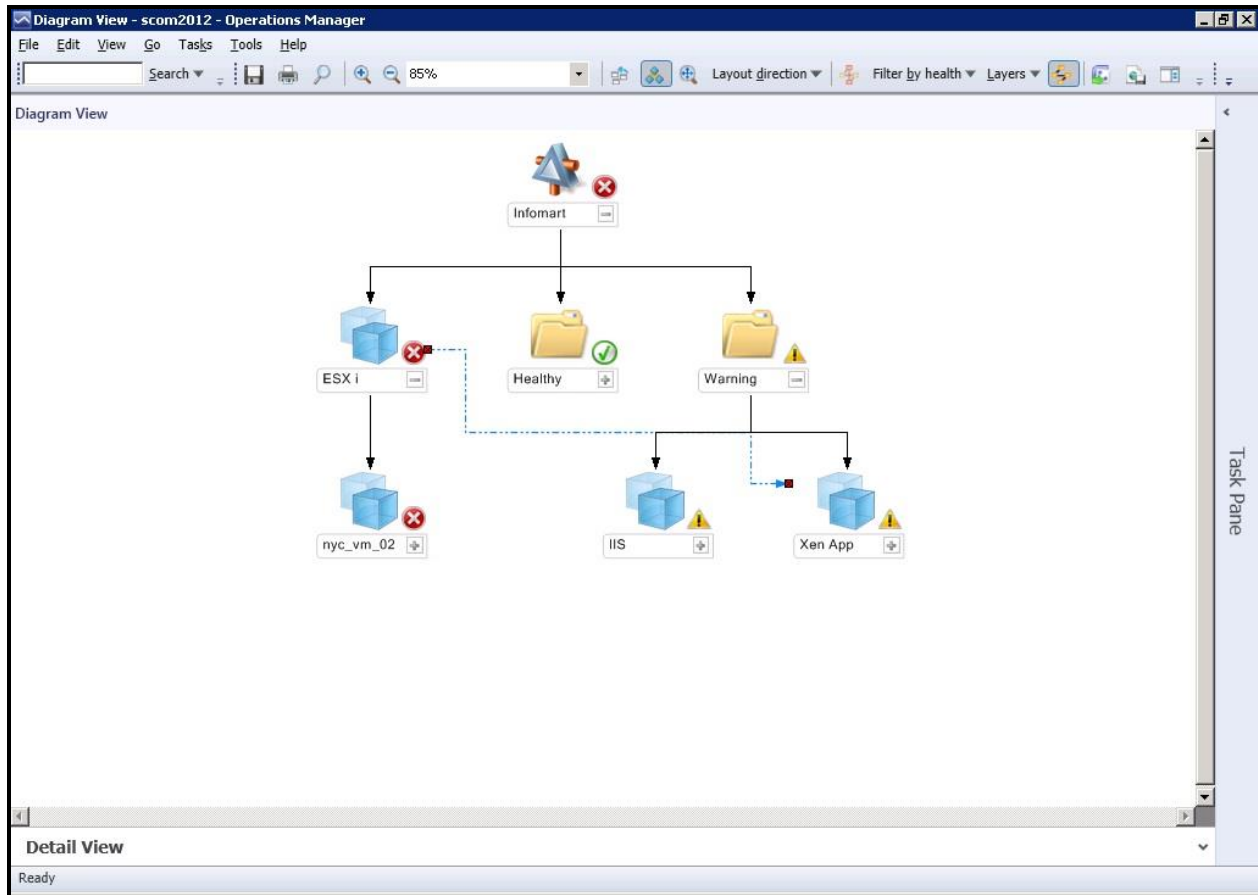

Figure 3.41: End-to-end correlation using SCOM
17. Now, let us drill down the **Warning** node under **Infomart** in the topology map. This reveals that the **IIS** web server component and the **XenApp** server component in our example are currently in the **Warning** state, indicating that **Major** problems have been noticed in these two components. Also, the 'dotted arrow' in blue connecting the **ESXi** component and the **XenApp** component (see Figure 3.41) reveals that the XenApp server depends upon the ESXi server for its proper functioning; this implies that the **Critical** issue with the **ESXi** component impacted the performance of the XenApp server that was running on one of the VMs of the ESXi server, thus creating a **Major** problem with the XenApp server. This is how SCOM indicates cause-effect equations and helps you isolate the source of issues with your distributed applications –i.e., business services.